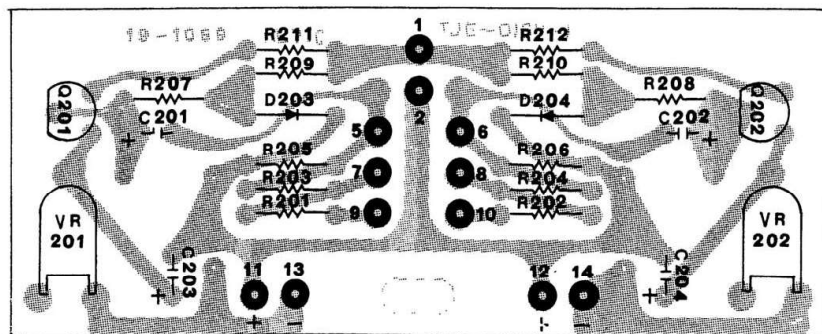

Fig. 3
6. Adjust VR201 (for right channel) and VR202 (for left channel) for a meter indication of 80 W. (or 0 dB). (sec. fig. 3)